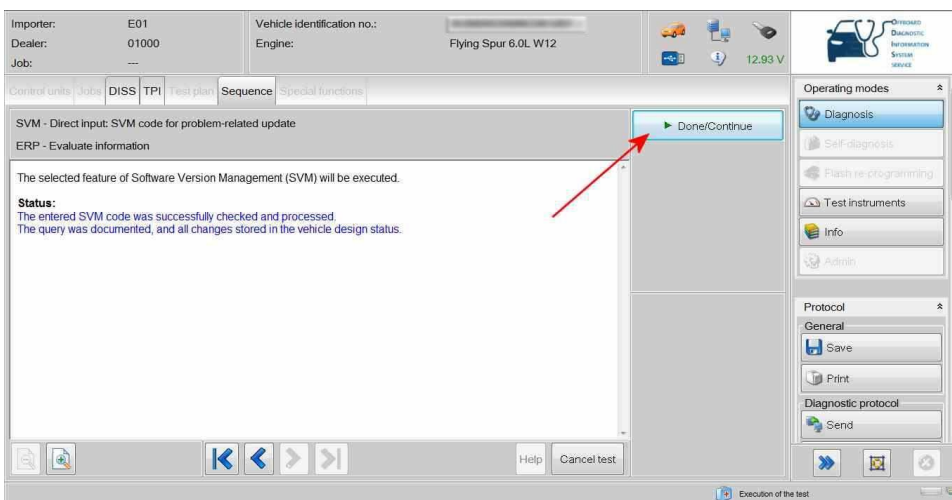

Figure 6
5) Once at Figure 6 - Select - Done/Continue and follow all on screen prompts